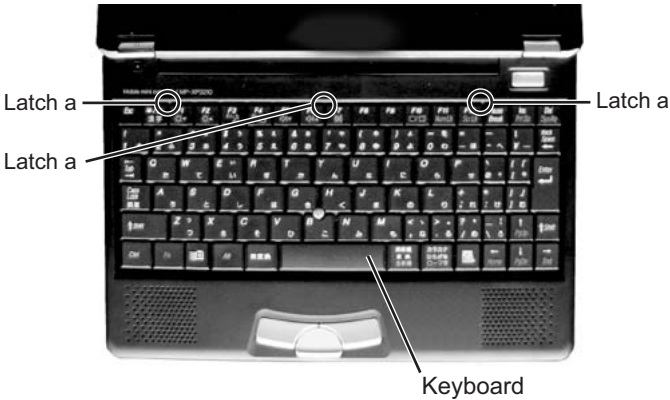
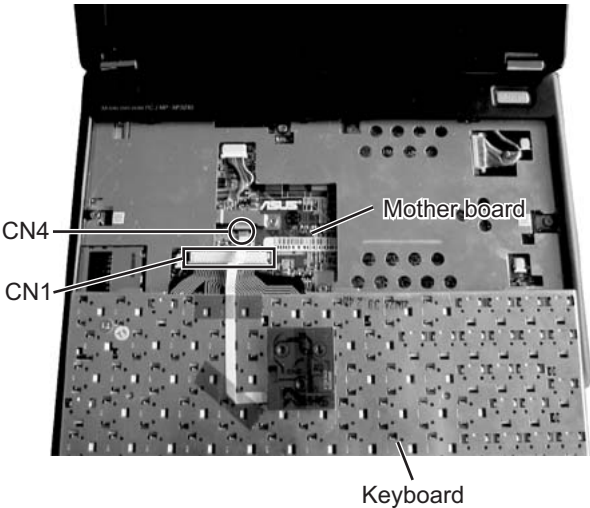

Fig.2
Fig.4
1.1.2 Removing the keyboard assembly (See Figure 2 ~ Figure 4)